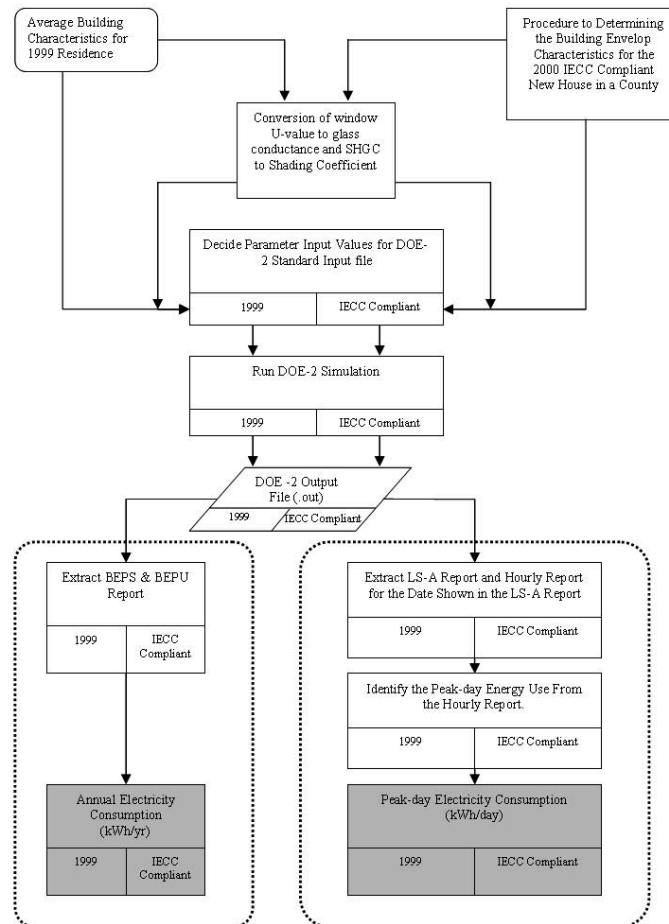
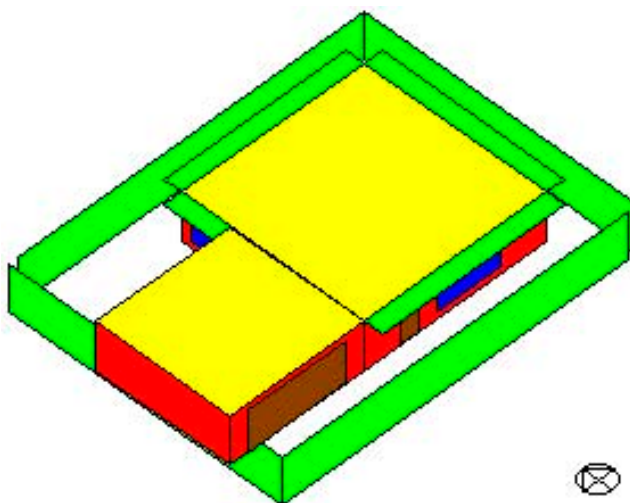

Fig 2 Procedures for the annual and peak-day energy use calculations for 1999 residence and 2000 IECC compliant residences
Fig 3 Code Compliant Residential House
Figure 2 shows the overall procedure for performing the energy savings calculations. In the first step, the building characteristics for the pre-code (i.e., 1999) and the code-compliant house were identified. The characteristics of the 1999 house were collected using the baseline construction data from the annual survey of the National Association of Home Builders (NAHB 2000). These 1999 data were assumed to represent the pre-code construction practices for each county. Next, the building characteristics for the code-compliant house were defined by determining the appropriate building envelope characteristics for the 2000 IECC compliant new house for a particular county. For the 1999 and code-compliant data, the windows U-value and the SHGC were converted to the DOE-2-required glass conductance and the Shading Coefficient (SC) values². The 1999 and code-compliant building characteristics were then input separately into the standard DOE-2 input file as PARAMETERS. Two simulations, one for the 1999 house and one for the code-compliant house, were then performed using the DOE-2.1e simulation program with the appropriate TMY-2 weather data assigned to the county. A view of the residential one-story code compliant building is shown in Figure 3. This illustrates the typical shading and other features of the house.